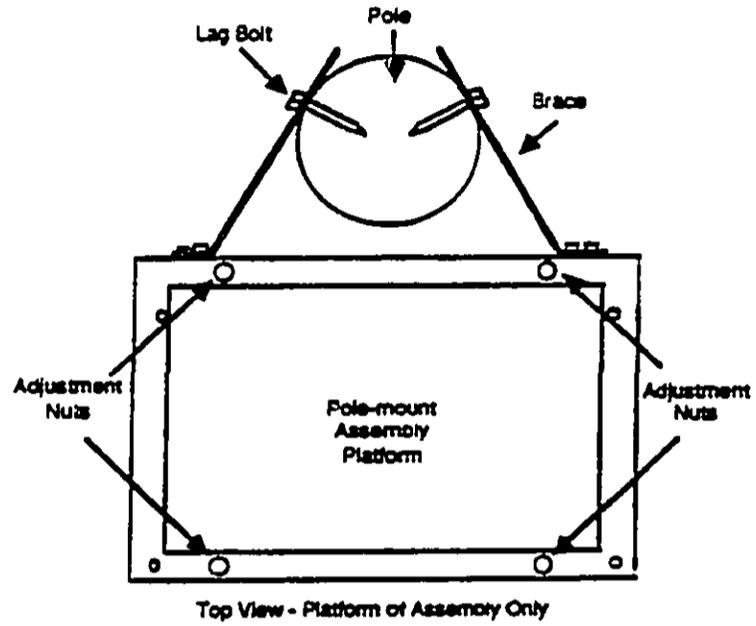

Fig. 2-7
- 4 Fasten the side braces onto the back of the assembly (see Fig. 2-7) using the 3/8 in. (9.5 mm) hex bolts and lock washers. Do not fasten the braces to the pole at this point.
- 13 For a pole-mount installation: fasten the braces on the platform to the pole by installing one lag bolt through each brace (see Fig. 2-7) into the pole.